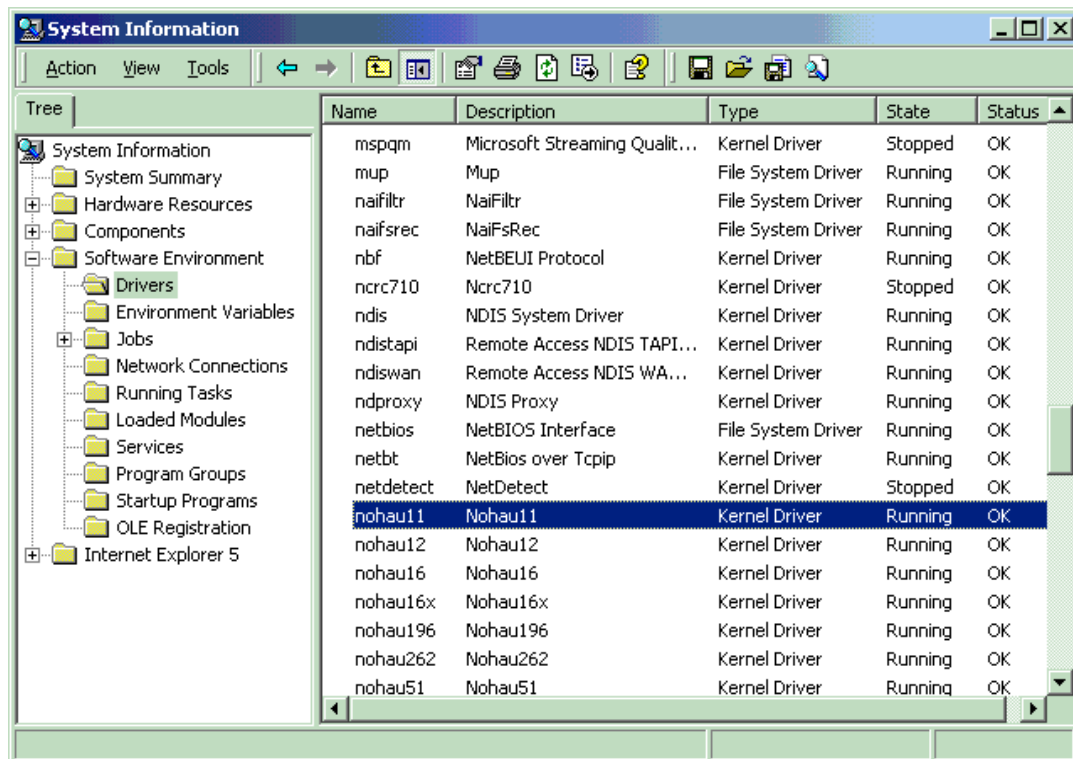

Figure 17. List of Active Drivers
4. Double-click the Drivers folder. A list of active drivers appears (Figure 17). Refer to the **Name** column and scroll down to **nohau11**.